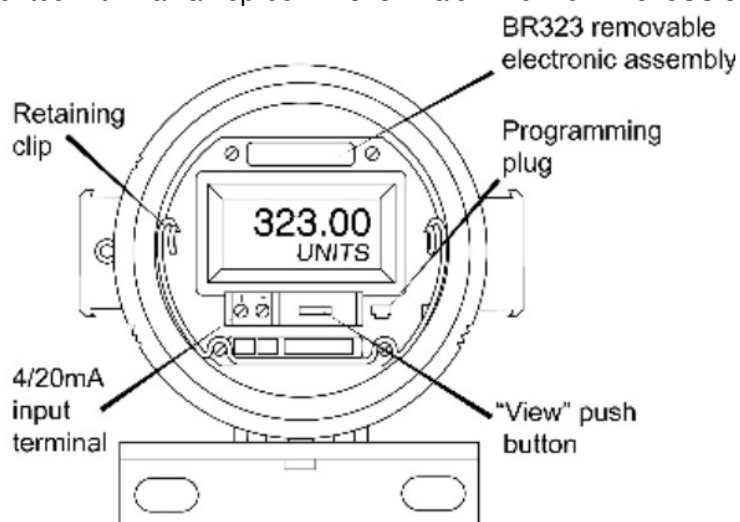

Fig 1 BR323AL or BR323SS without cover
- b. Remove the BR323 electronic assembly from the enclosure by gently squeezing the retaining clip and pulling – see Fig 1. If necessary remove the screw securing the earthing wire connecting the electronic assembly to the enclosure.
- e. Position the electronic assembly in the flameproof enclosure and connect the two input terminals as shown in Figs 1 and 4. If removed, the earthing cable should be reconnected between the electronic assembly and the flameproof enclosure.